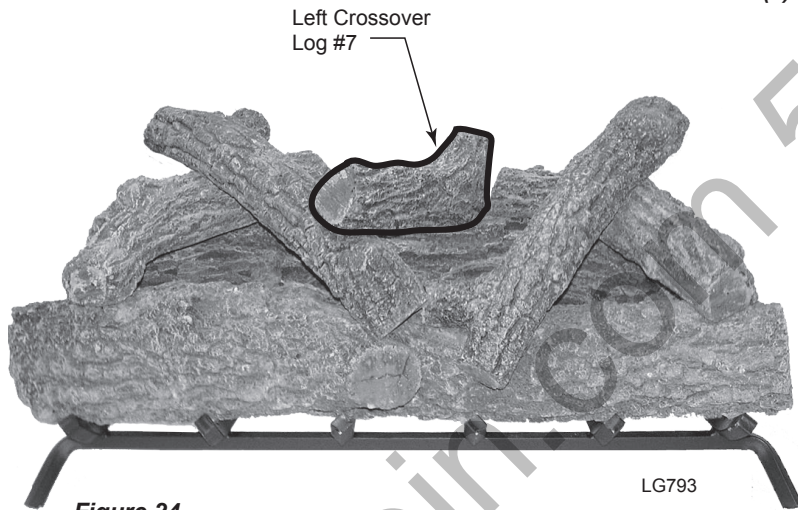

Figure 24 - Place Left Crossover Log #7
7. Place Left Crossover Log #7 on Log #2 and Log #5. *Figure 24*